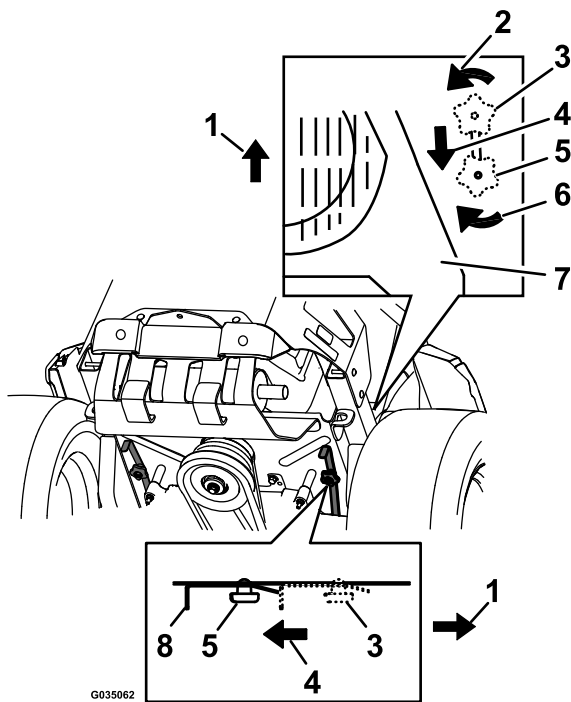

Figure 39
4. To push the machine, move both bypass knobs rearward and lock them into place (Figure 39).
6. To run the machine, move the bypass knobs to the FORWARD position and lock them into place (Figure 39).